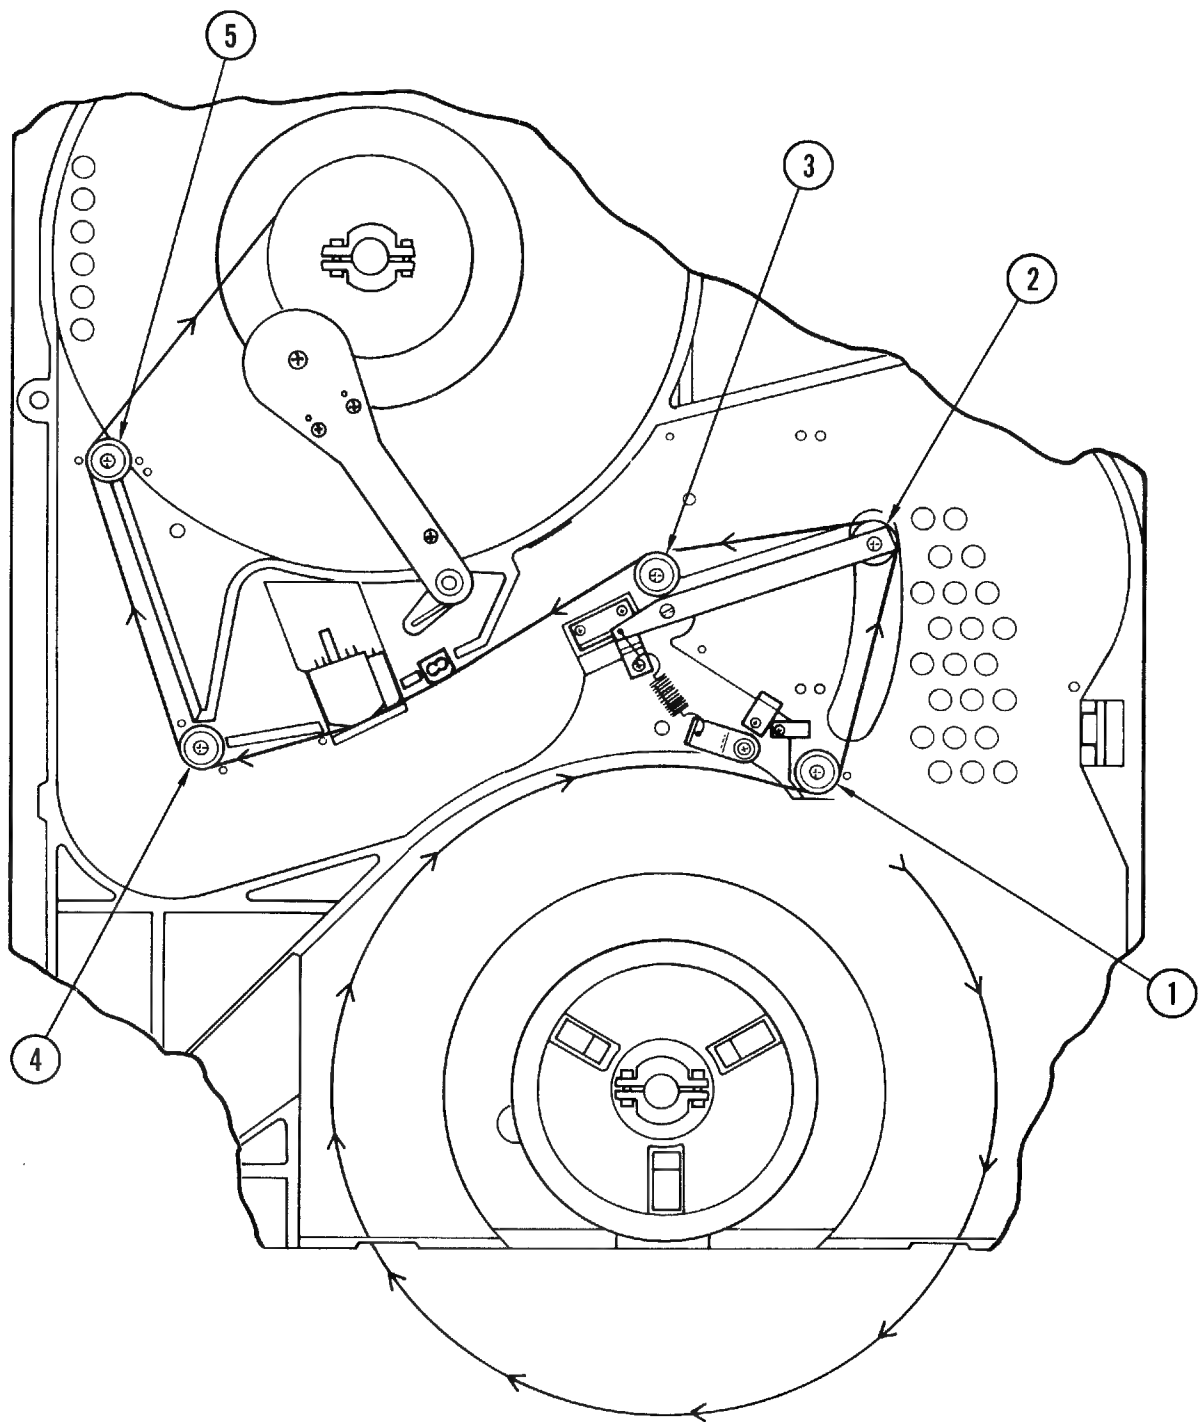

Figure 4-32. Tape Path Adjustment
- g. Observe position of tape on roller guide (2, Figure 4-32).